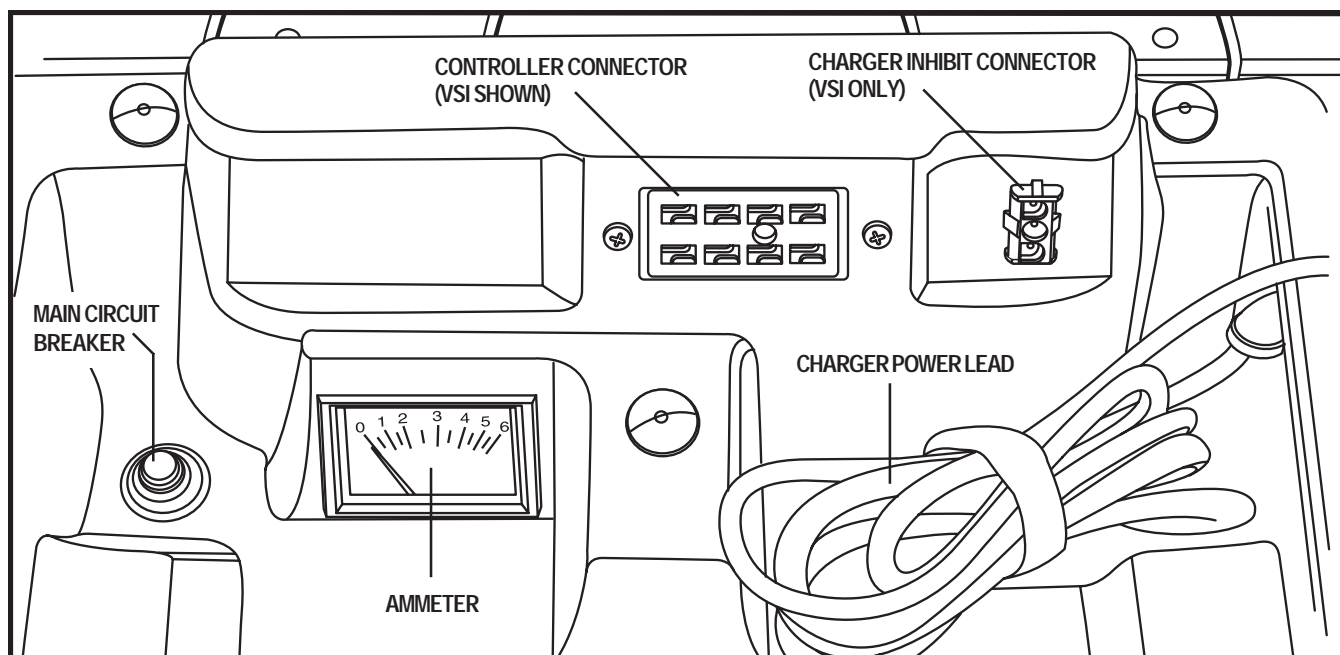

Figure 7. Jazzy 1170XL Electronics Tray
7. Plug the controller cable into the connector on the electronics tray. See figure 7.